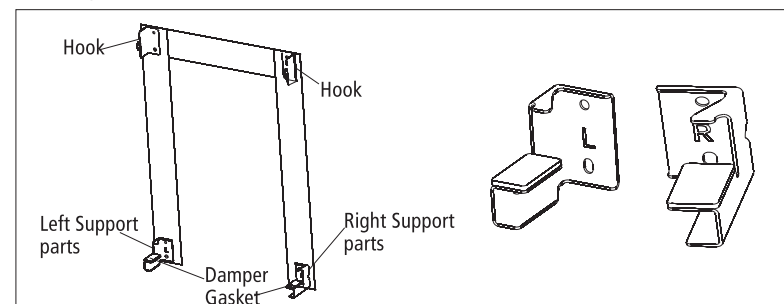

Fig.2
3. According to the following illusion, install 8 pcs expansion screw bolts and 2 hooks and the left support shall be installed with the cushion. The same installation step for the right side. (Fig.2)